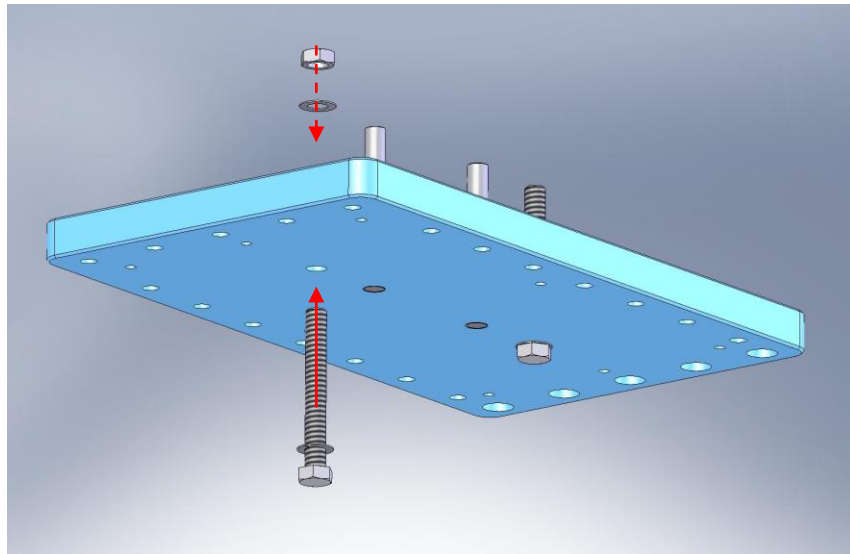

Figure 3.2. Clamp hex head screws to Wall, using hex jam nut. Threaded portion should point in same direction as protruding dowel pins.
- Insert hex head cap screws, with washer on either side. Tighten to **Wall**, using jam nut on each screw, as shown in Figure 3.2.